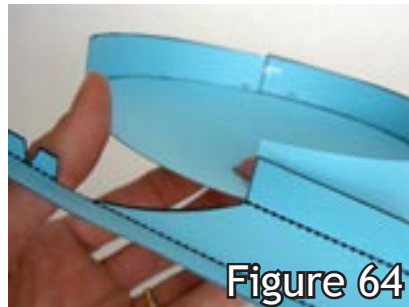

Figure 64
13. Use a small piece of tape to connect the shorter wall of the “funnel entry” to the wall of the funnel. (fig. 64)